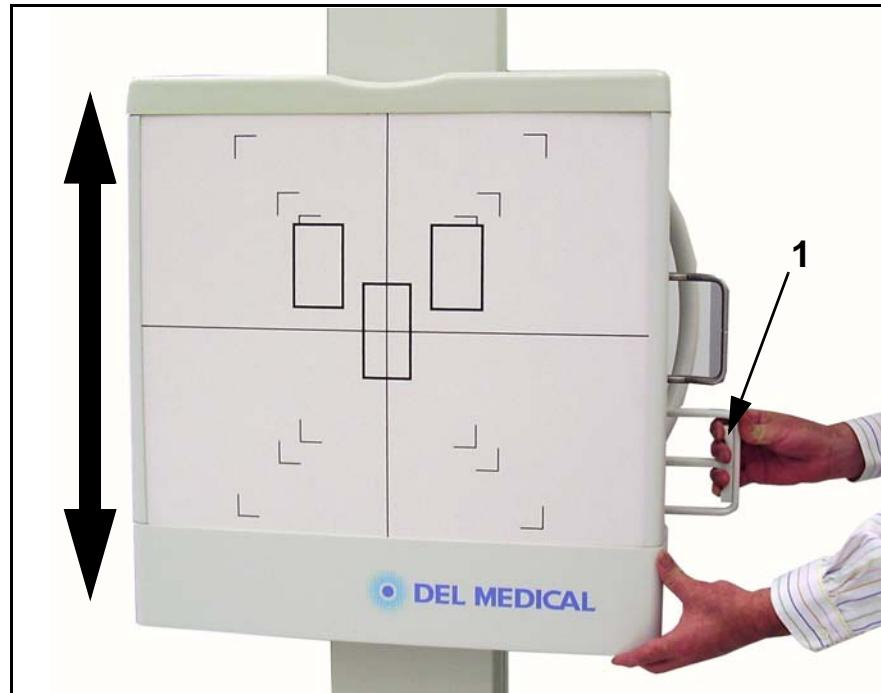

Figure 3-6. Release Brake Handle
- 7 Squeeze and hold release brake handle (1 in Figure 3-6).